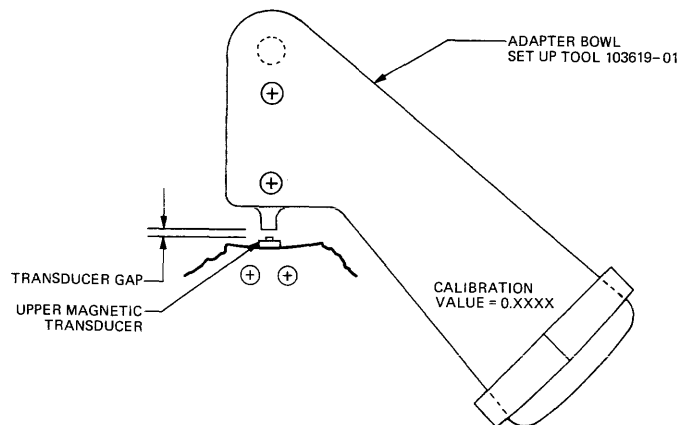

Figure 6-34. Upper Magnetic Transducer Gap
- (1) Remove power from the drive.
- (2) Remove P109 from the Logic PCBA.
- (3) With a suitable continuity indicating device, monitor the switch closure between pins 1 and 2 in the connector.
- (4) Install adapter bowl setup tool, PCC PD Part No. 103619-01, onto the spindle cone. See Figure 6-34.
A feeler gauge is used to measure the gap distance between the transducer pole tip and the tool (see Figure 6-34). Each adapter bowl setup tool will have marked on it a calibration value to be added to the normal feeler gauge value.